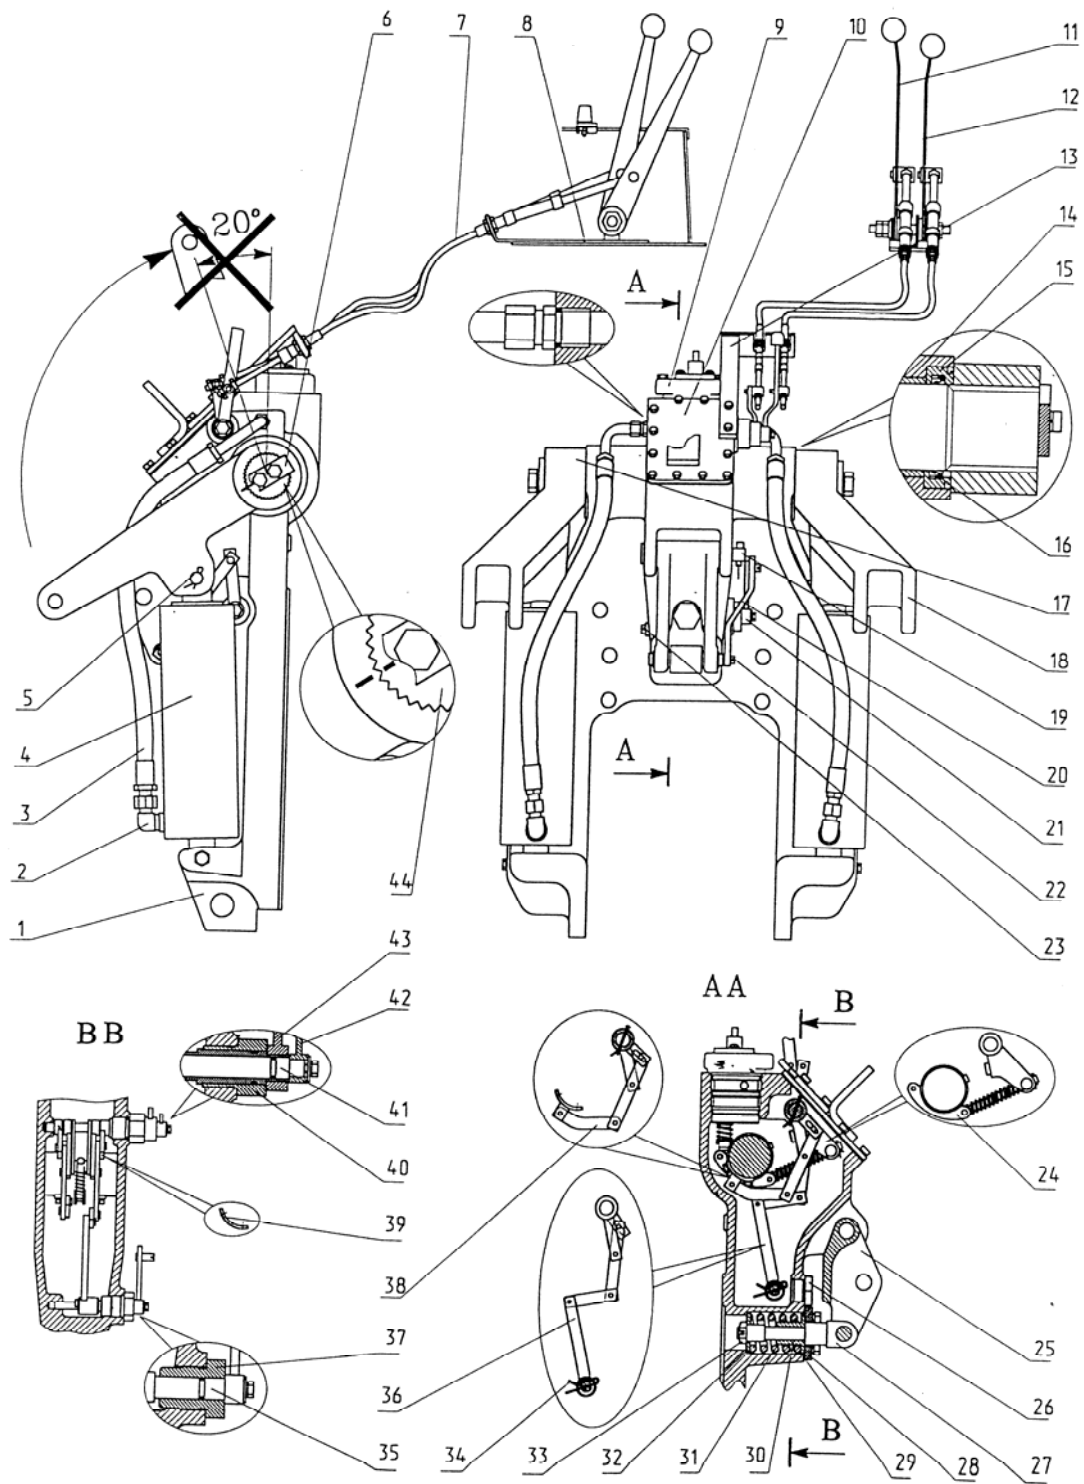

Figure 9.1
- 2) drain oil from body 1 of hydraulic hoist (Figure 9.1), gaving unscrewed drain conical plug 23 on the left side of hydraulic hoist;
Measure diameter of four bushings 14 (Figure 9.1) and adjacent diameters of swivel shaft sections 44, maximum difference of diameters must not exceed 0.5 mm. If necessary, press out and replace bushings or shaft. When replacing left- 17 and right-side 18 swivel levers put on new levers new marks corresponding to marks you made on removed parts.
- **on top bushing 40** (Figure 9.1) (leakage between bushing and body 1) and on hollow roller of power link 36 (leakage between bushing 40 and power lever 43):
- **on top roller 41** (Figure 9.1) (leakage between levers 42 and 43):
- **on bottom bushing 37** (Figure 9.1) (leakage between bushing and body) and on bottom roller 35 (leakage between bushing and lever 21):